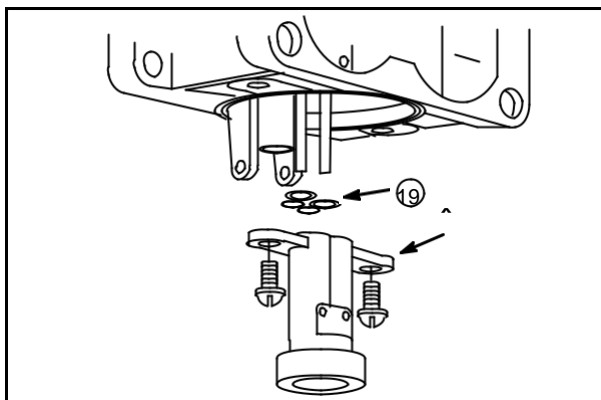

Fig. 127
Install emulsion tube body (8) with new gasket (19), **Fig. 127**. Tighten screw securely.